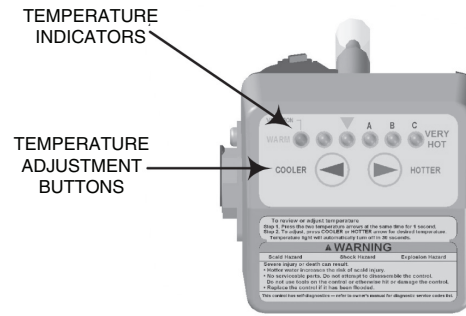

Figure 4. Temperature Indicators and Adjustment
1. “Wake up” the temperature indicators by pressing the COOLER and HOTTER temperature adjustment buttons at the same time and releasing after one second (see Figure 4). One or two of the temperature indicators will light up. These indicators will only remain on for 30 seconds if no further buttons are pressed. After 30 seconds the control will go back to “Sleep” mode, and both buttons will again have to be pressed to see the water temperature setting.